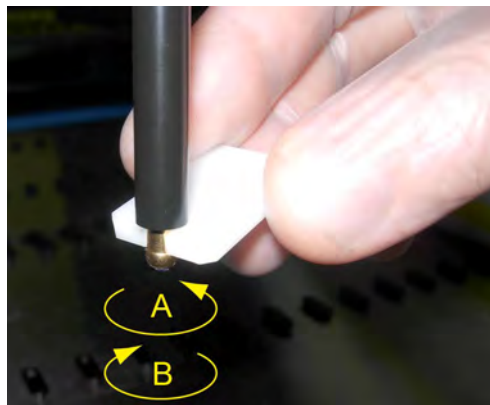

Fig. 7-7 Cone wrench
- 1** Hold the tip ejector tube while unscrewing the DiTi cone, using the supplied cone wrench (see Fig. 7-7, 2 7-33).